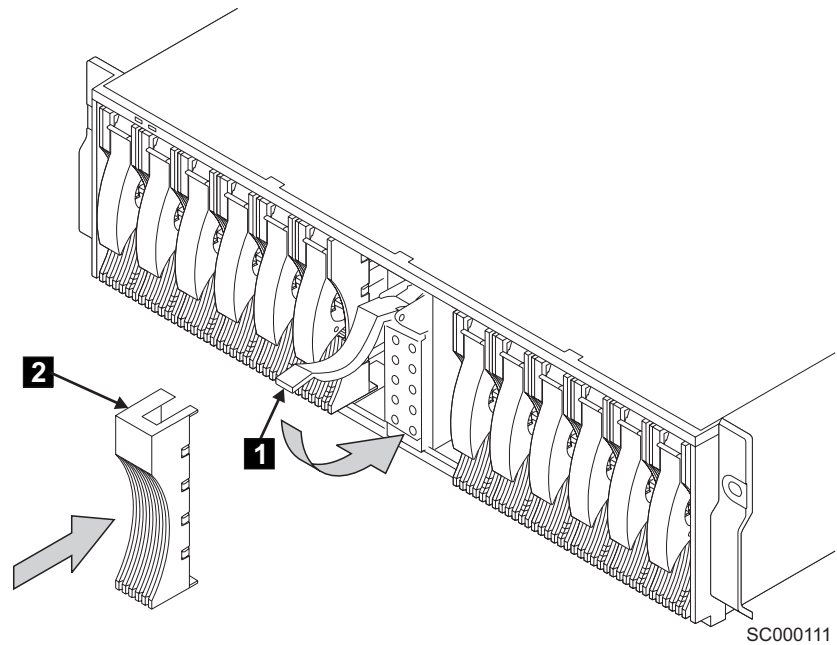

Figure 56. Closing the handle and installing the cover
3. Close the handle **1** until it stops with a click. This action pushes the SCSI bus bridge card assembly fully home, as Figure 56 shows.